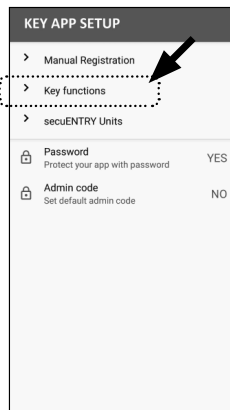

Fig. 39
- ④ Tap on "Key functions" (Fig. 39).